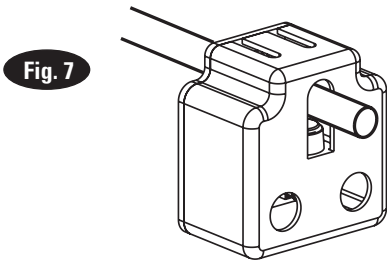

Fig. 7
8. Overhead Assembly: Fig. 6: Adjust overhead to appropriate dimension. Install (4) 3/8"-16NC x 3/4" HHCS & 3/8"-16NC Flanged Locknuts, do not tighten. Slide Switch Box over switch bar ensuring knock out holes face the power unit column. Use (2) 1/4"-20NC x 3/4" lg. HHCS, 1/4" Flat Washers, 1/4"-20NC Nuts and 1/4" Star Washers to mount switch box to overhead, see Fig. 7.